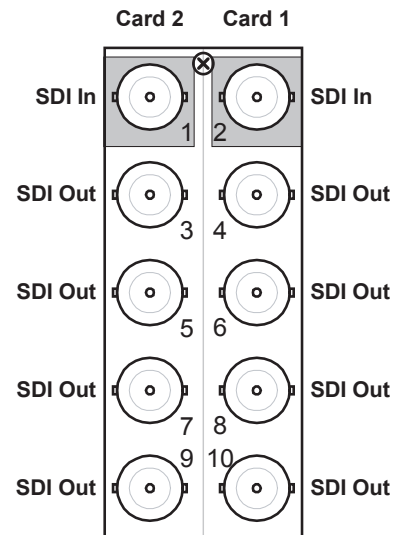

Figure 2.3 Cable Connections for the 8320AR-031 Split Rear Modules
- **8320AR-031** Split Rear Module (R2S-8201A) — Each card occupies one slot and provides one SDI input, and four SDI outputs. Each Split Rear Module provides connections for two cards. (**Figure 2.3**)
- **8320AR-031** Split Rear Module (R2S-8601A) — Each card occupies one slot and provides an SDI input, and four SDI outputs. Each Split Rear Module provides connections for two cards. (**Figure 2.3**)